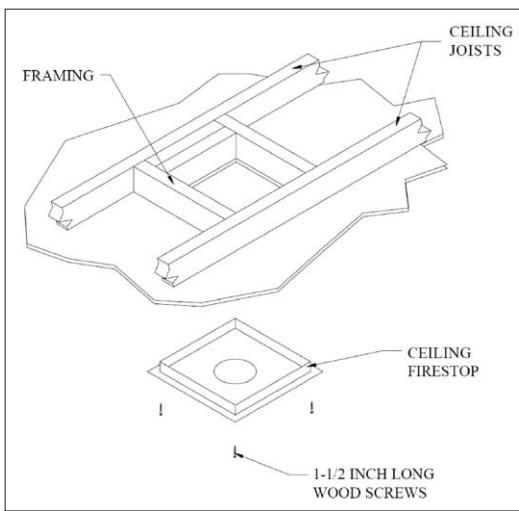
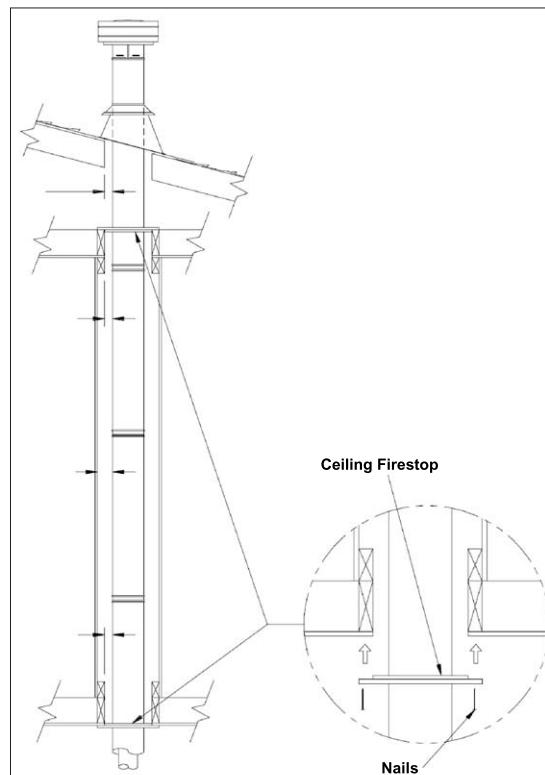

Figure 40: Installation of Ceiling Firestop.
Figure 43: Installation of Ceiling Fire Stops.
Step 3. To install the Ceiling Firestop in a flat ceiling, cut a square hole in the ceiling $11'' \times 11''$ (280x280mm) square for $8'' \times 5''$ pipe, centered on the hole drilled in Step 2. Frame the hole as shown in Figure 40.
- (1) For multi-story vertical installations, a Ceiling Firestop is required at any subsequent floors (as shown in Figure 43). The opening should be cut and framed in the same manner as the opening in Step 3 (see Figure 40).
- (2) Any occupied areas above the first floor, including closets and storage spaces, which the vertical vent passes through, must be enclosed. The enclosure may be framed and sheet rocked with standard construction materials, however minimum allowable clearances between the outside of the vent pipe must be maintained. Do not fill any of the required air spaces with insulation.